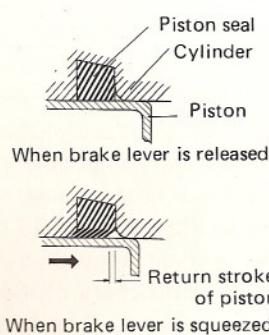

Fig. 3-3-3
When the brake lever is released and fluid pressure in the caliper cylinder vanishes, the piston moves in the direction of arrow in Fig. 3-3-3, being pushed by piston seal (5) which was pressed onto the piston by fluid pressure and is now restoring its original shape with fluid pressure released. Therefore, the pads pressed to the disc part from the disc since the piston moves as much as the piston seal displacement, thus setting the brake disc free.